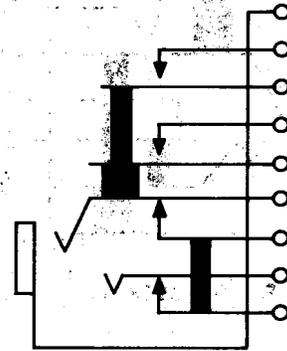

Fig. 7—290A or C Jack
**2.07 290A and C:** These single-mounted jacks (Fig. 7) are used with the 310 or similar-type plugs. They are intended to be mounted with the springs in a vertical plane.